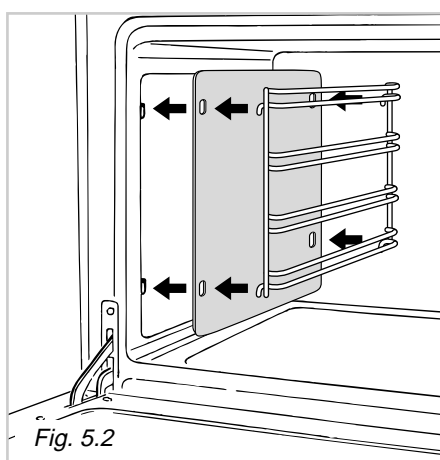

Fig. 5.2
- In the models with catalytic panels interpose the panels (Fig. 5.2).